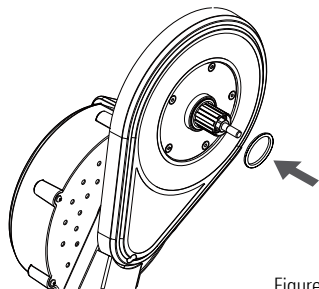

Figure 5
- 2. Install the spacer or spacers required behind the cassette onto the freehub body. Load the cassette sprockets onto the freehub body. See figures 5, 6. (Refer to the manufacturer's instructions if necessary)